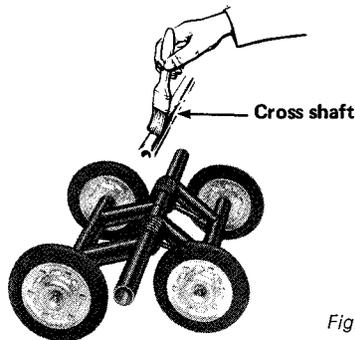

Fig. 20
4. Spray bogie wheel springs with Ski-Doo* metal protector. If unavailable, wipe with cloth or rag soaked in oil. Check condition of shaft and replace if bent or worn. Apply a coat of low temp. grease on cross shaft. (See Fig. 20).